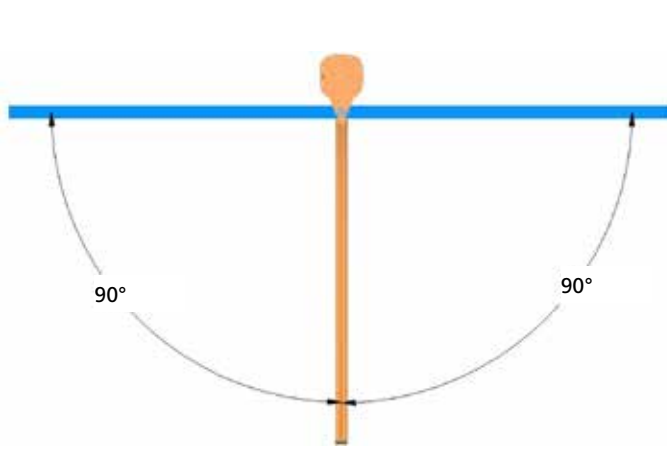

fig.83
2. Carry out the check of planarity of the arm with the help of a level. Carry out such a check rotating the arm by 90° to the left and to the right (fig. 83).